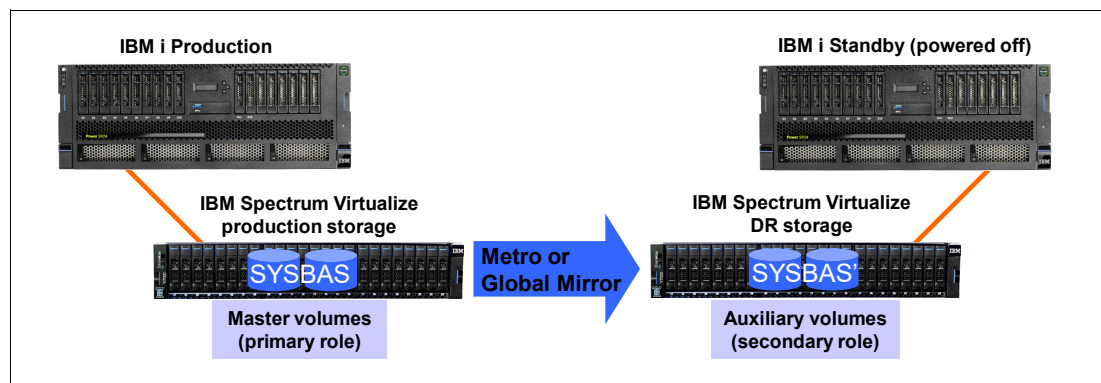

Figure A-11 IBM i full system replication with IBM Spectrum Virtualize
Full system replication is used for Disaster Recovery (DR) purposes where an IBM i standby server is used at the DR site, as shown in Figure A-11.